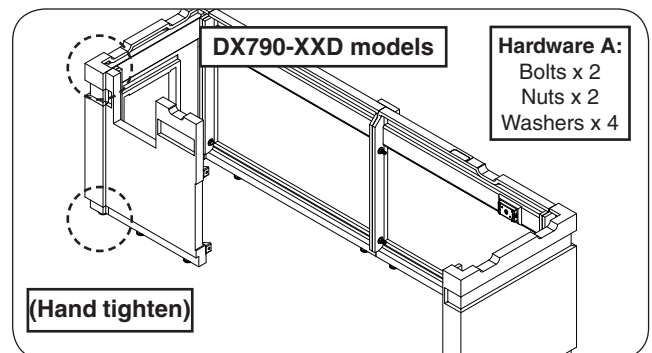

Fig. 10-2 Assemble front wall (left piece)
1. Orient the front wall left piece and repeat the hardware installation process (hardware kit A). Hand tighten only. See Fig. 10-2.